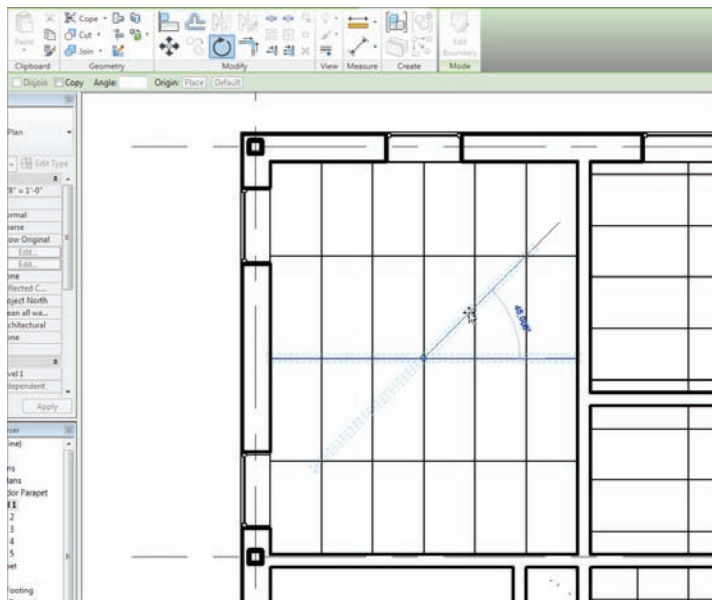

FIGURE 9.7 Select one of the grids and click the Rotate button.
2. Pick the ceiling grid line, as shown in Figure 9.7. (Make sure you're zoomed in close enough to make the Rotate command active.)
3. On the Modify | Ceilings tab, click the Rotate button, as shown in Figure 9.7.